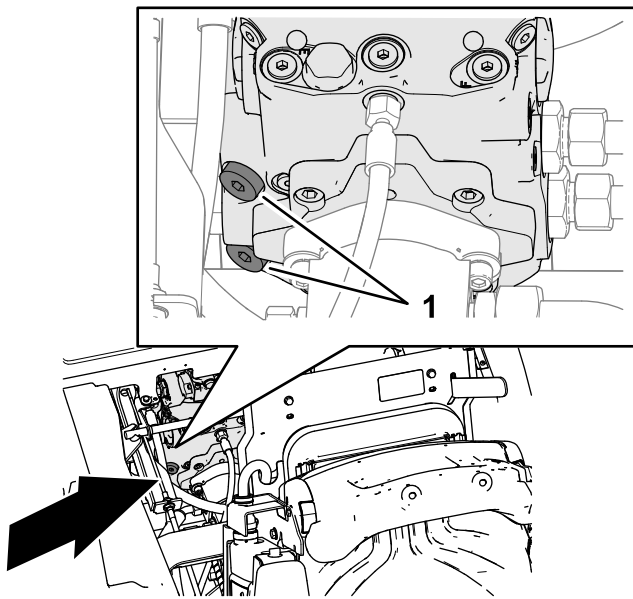

Figure 38
1. Use an 8 mm (5/16 inch) hex key to rotate the 2 socket head plugs for the transmission pump-relief valves counterclockwise 3 full turns (Figure 38).